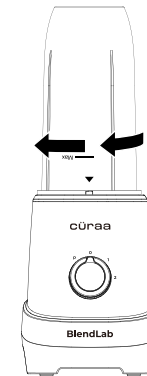

Fig. 7
- Push down the Jar and turn it clockwise to lock into the motor unit (Fig. 7).